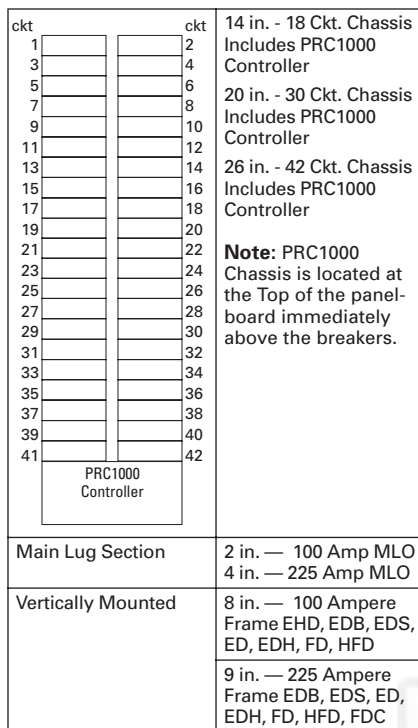

Figure 23.2-1. Pow-R-Command PRC1000 Layout
1. Select PRC1000 Panelboard Chassis from **Figure 23.2-1**.
2. Layout panel as shown in **Figure 23.2-1**. Total "in." determine box height shown in **Table 23.2-3**. (When total "in." units exceeds the number shown, use next size box size.)
2. Layout information from **Figure 23.2-1**.